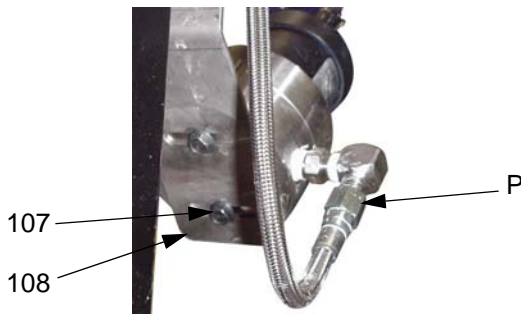
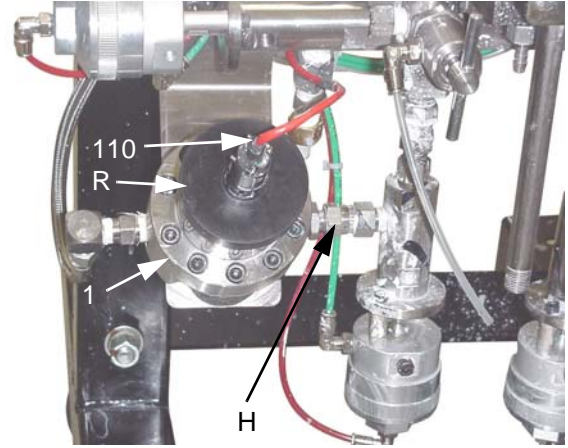

FIG. 27
FIG. 28
4. Unscrew cable connector (110) from meter (1). FIG. 28.
**NOTE: The meter shield (R) is unattached and may fall off when you remove the meter (1). FIG. 28.**
5. Unscrew M6 screws (107) from bottom of meter mounting plate (108) with socket wrench. FIG. 27.
6. Unscrew fluid line from meter inlet (P).
7. Unscrew meter (1) from dispense valve connector (H). FIG. 28.